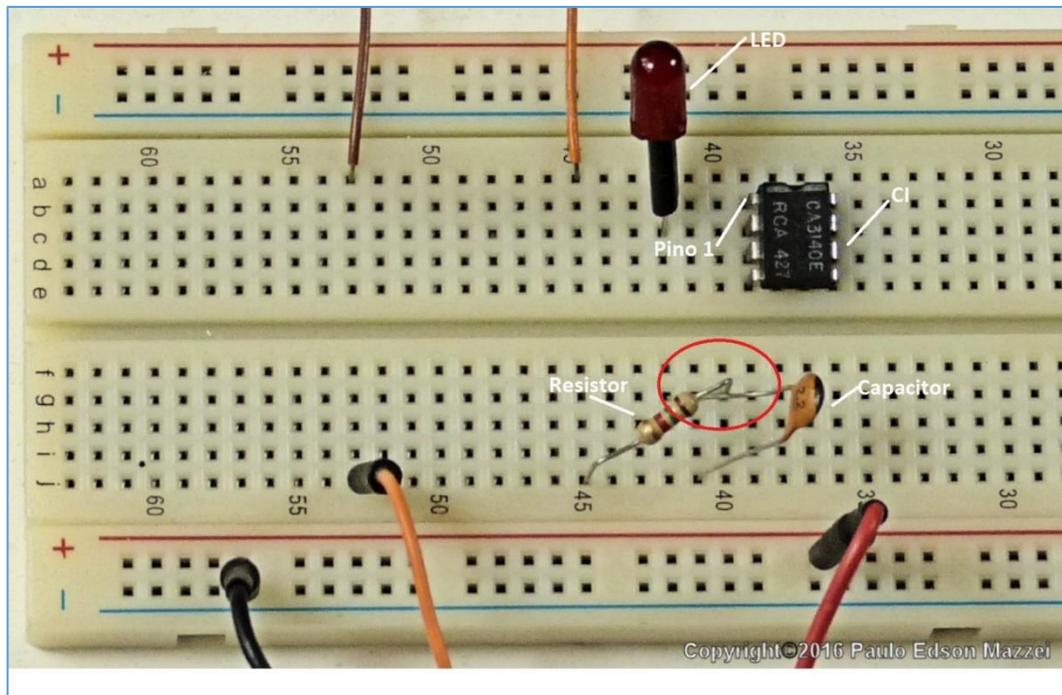

Figure 53 - Problems that can occur when assembling the components in Protoboard.
Next, we'll look at some problems that may arise in assembling components on Protoboard. Based on **figure 53**:
6. If this eBook were interactive, we could show you a "set of mistakes", based on **figure 53**.